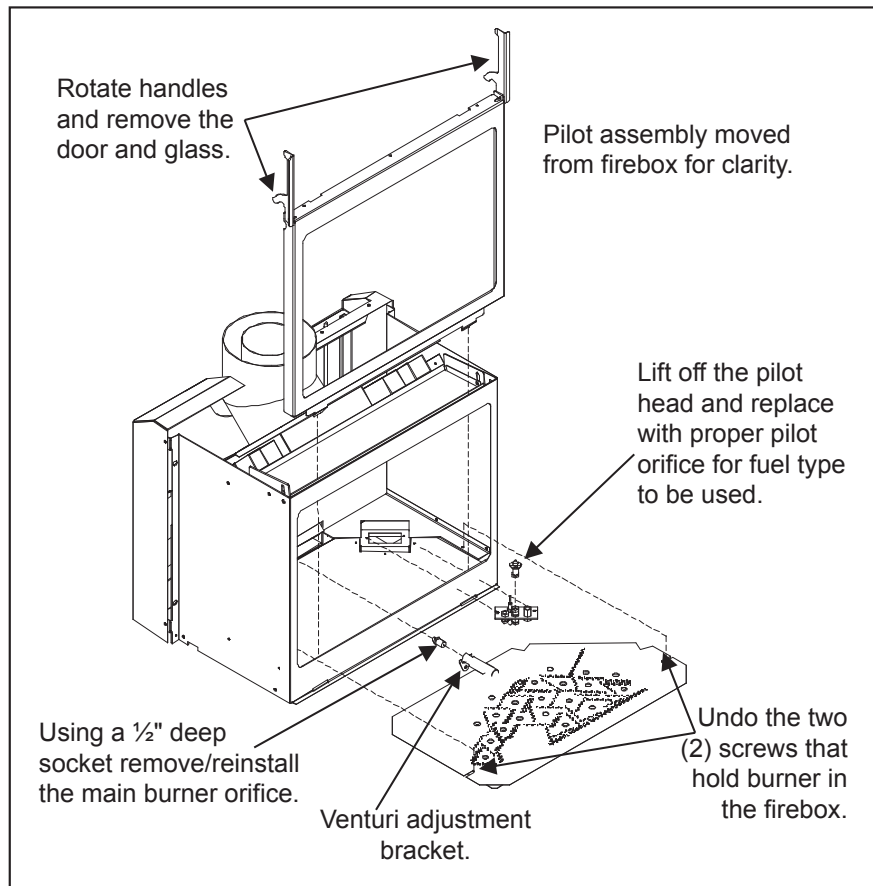

Figure 9: Unit burner shown apart.
- Step 5.** Remove the two (2) screws (located on the outside edges of the burner) that hold the burner to the chassis inside the fire box, see Figure 9. Remove the burner tray from the firebox.